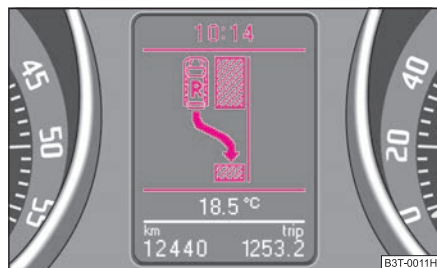

Fig. 130 Information display: Parking place recognized with the information to engage the reverse gear
- Drive on further until the display ⇒ **fig. 130** appears.